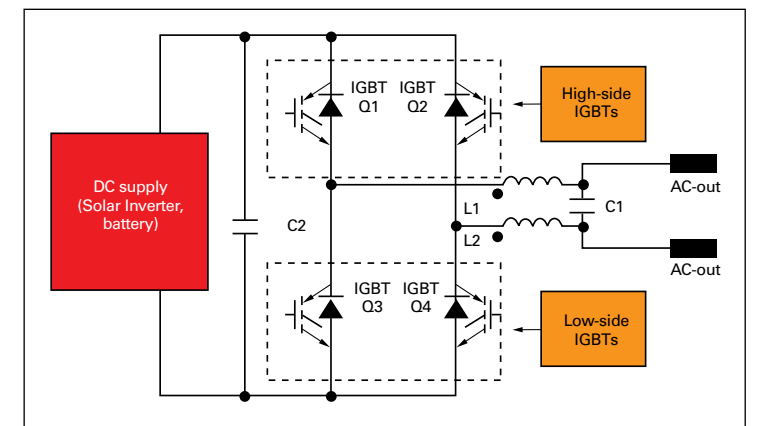

Fig.1 The solar-power inverter taps high voltage IGBTs in a full-bridge topology
To create the AC waveform, the DC input from a solar cell or battery passes through a full-bridge inverter, as shown in Figure 1. This requires four high-voltage IGBTs; Q1 and Q2 (referred to as 'high-side'), and Q3 and Q4 (referred to as 'low-side') transistors.
International Rectifier's (IR) portfolio of IGBTs and MOSFETs provides for this scenario, as Figure 1 shows. For the high-side IGBTs, switching time is crucial and so selecting a fast switching IGBT can minimise switching losses. A new range of IGBTs launched recently by IR, the 600V Trench IGBTs, have been optimised for high-side switching at 20kHz and target inverters used in uninterruptible power supplies (UPS) and solar panel inverters. In fact, using these devices can deliver up to 30% efficiency gains in these applications.